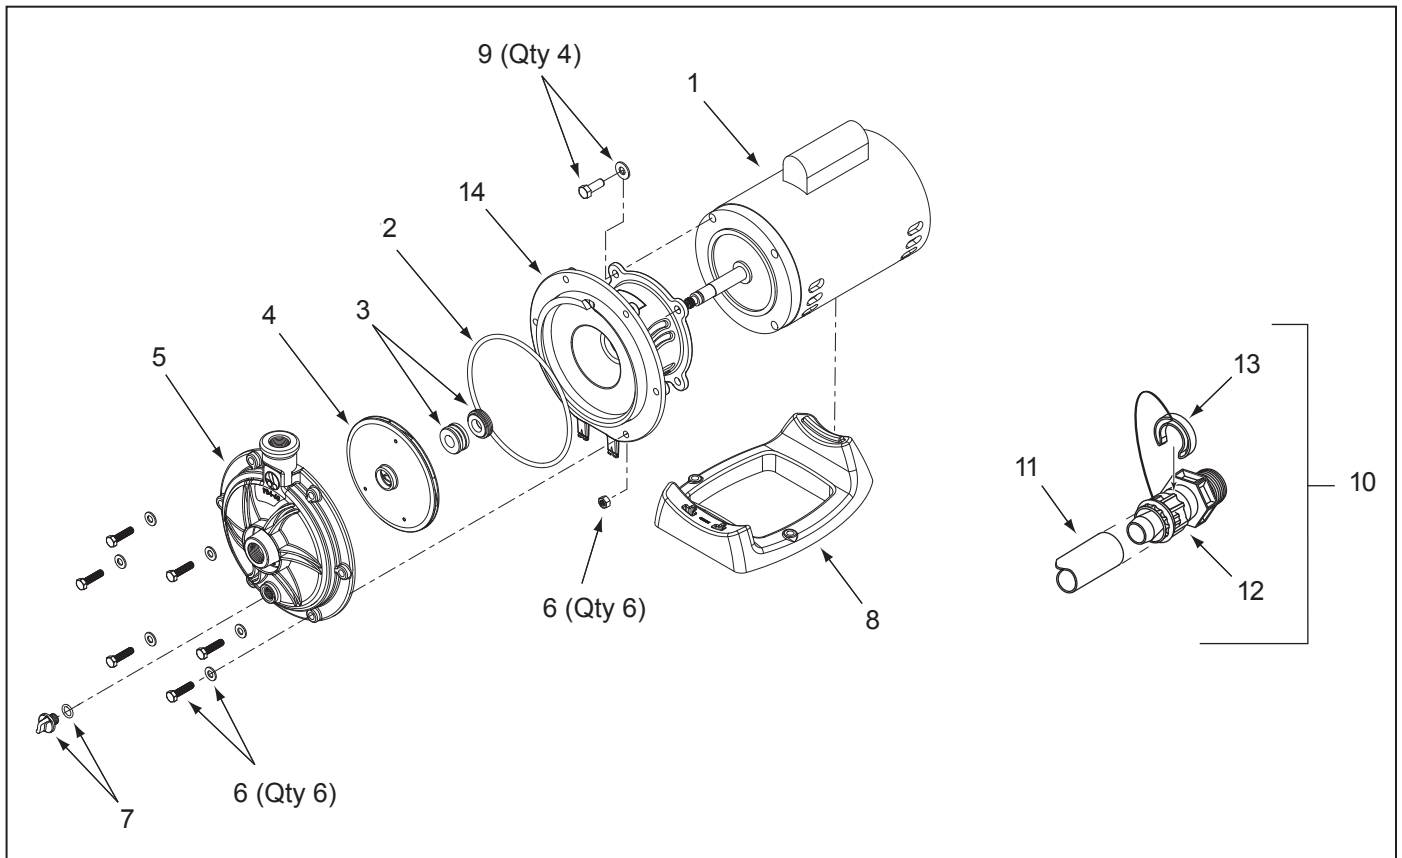

Figure 11. Polaris PB4-60 Booster Pump Exploded View
3. Remove the four (4) 9/16" screws and remove the motor.
**NOTE** Before removing the backplate, note the alignment of the backplate to the motor. Label is facing upward. See Figure 11.
5. Replace the four (4) bolts and washers holding the backplate to the motor.